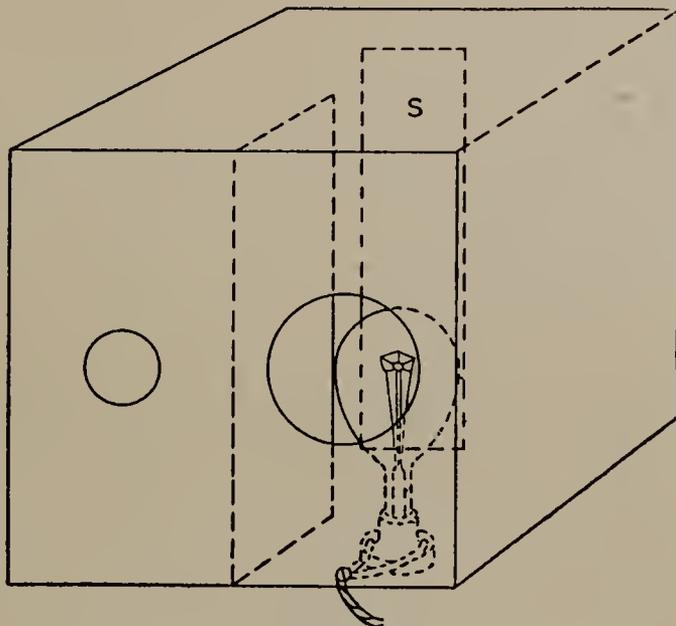

FIG. 128.
**Introductory Discussion.**—The apparatus for a simple postcard projector costs very little and can be made in a few minutes by any boy who is handy with tools. Make a box about 1 ft. high with a base about 15 in. square. A soap box or a cracker box can be cut to the right size. In one side cut two circular holes as shown in Fig. 128. One
hole should be about 3 in. in diameter and the other about 8 in. in diameter. Set up a movable block of wood (*S* in Fig. 128) to which a postcard can be attached. Put a thin board partition about 3 in. wide between the two holes. Put a porcelain base socket in the box. Leave the socket movable and insert in it a 100-watt gas-filled (nitrogen) incandescent lamp. Just outside the box